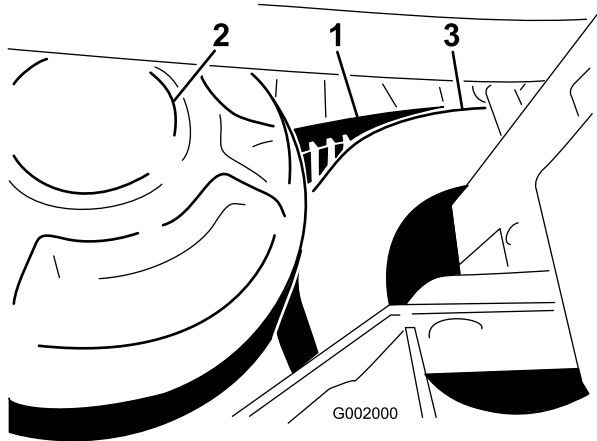

Figure 63
1. Rotate and route the belt over the secondary clutch (Figure 63).